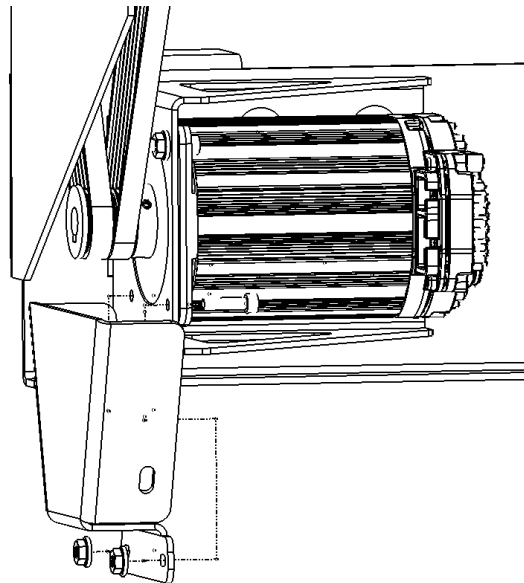

Figure 15: Belt Guarding on PWD drive motor
4. Remove the belt guard from the front of the motor. Refer to Figure 15 for the belt guard mounting location. The belt guard and the motor mount share the same mounting hardware. Please ensure that there is no tension on the Poly-V bands when executing this step.